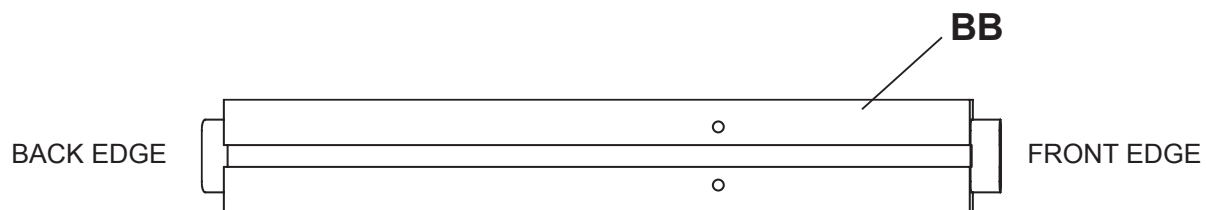

FIG. 4
- 5) If attaching the 455W Arm Kit be sure to use holes in Side Apron (BB) as shown in FIGURE 4.